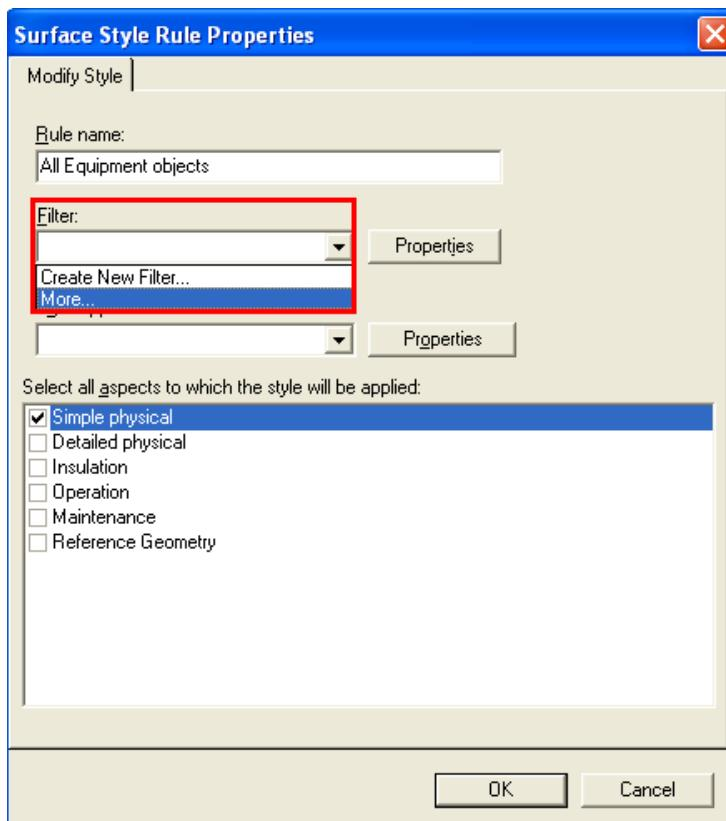

Figure 6: Selecting the Filter
5. Click the **Filter** drop-down list and select the **More...** option to specify the filter as shown in Figure 6.